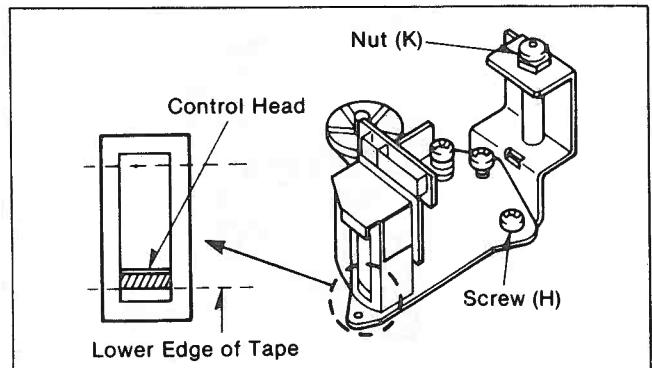

Figure M27
If it doesn't slightly turn the nut (K) behind the A/C Head (Figure M27) to either lower or raise the A/C head so that the tape runs along the lower edge of the control head.
3. Adjust the nut (K)(Figure M27) so that the envelope becomes maximum.